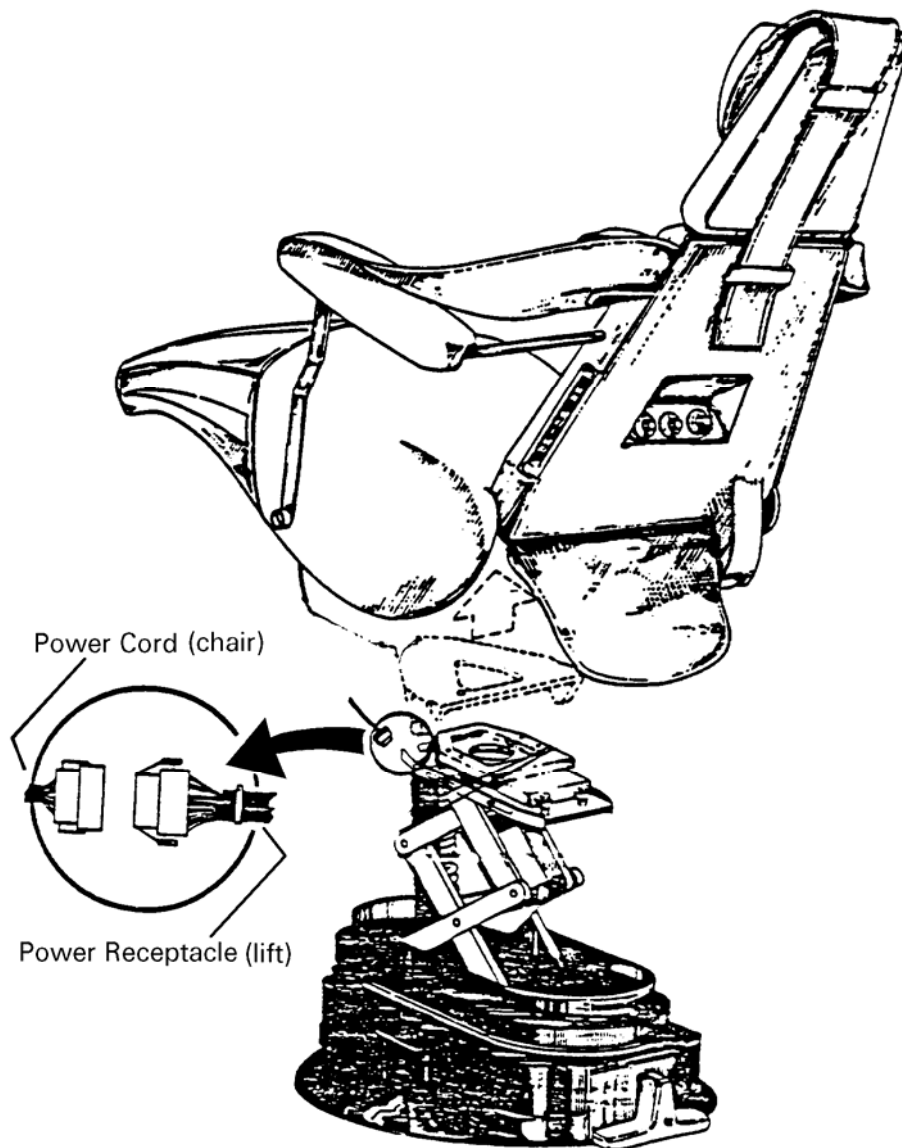

Figure 2-2. Dental chair power cord.
(4) The four conductor plug on the chair is not securely plugged into the black coil cord at the rear of the lift. On newer models, the chair-base connector is mounted on the front of the chair. Refer to figure 2-2. Test by visually inspecting the four conductor plug.